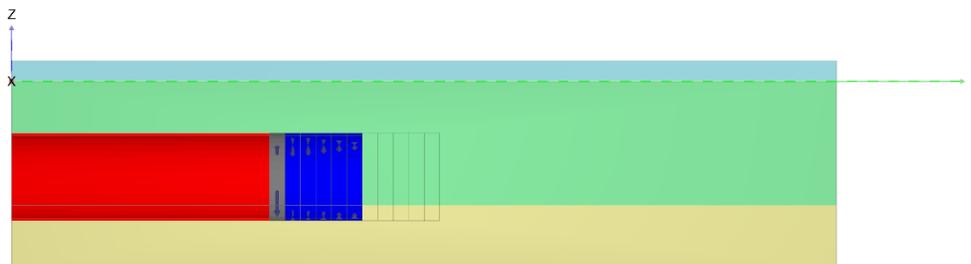

Figure 79: Selection of soil volumes (0 m - 25 m)
4. In the drawing area select the soil volumes corresponding to the lining in the first 25 m (Figure 79 (on page 105))